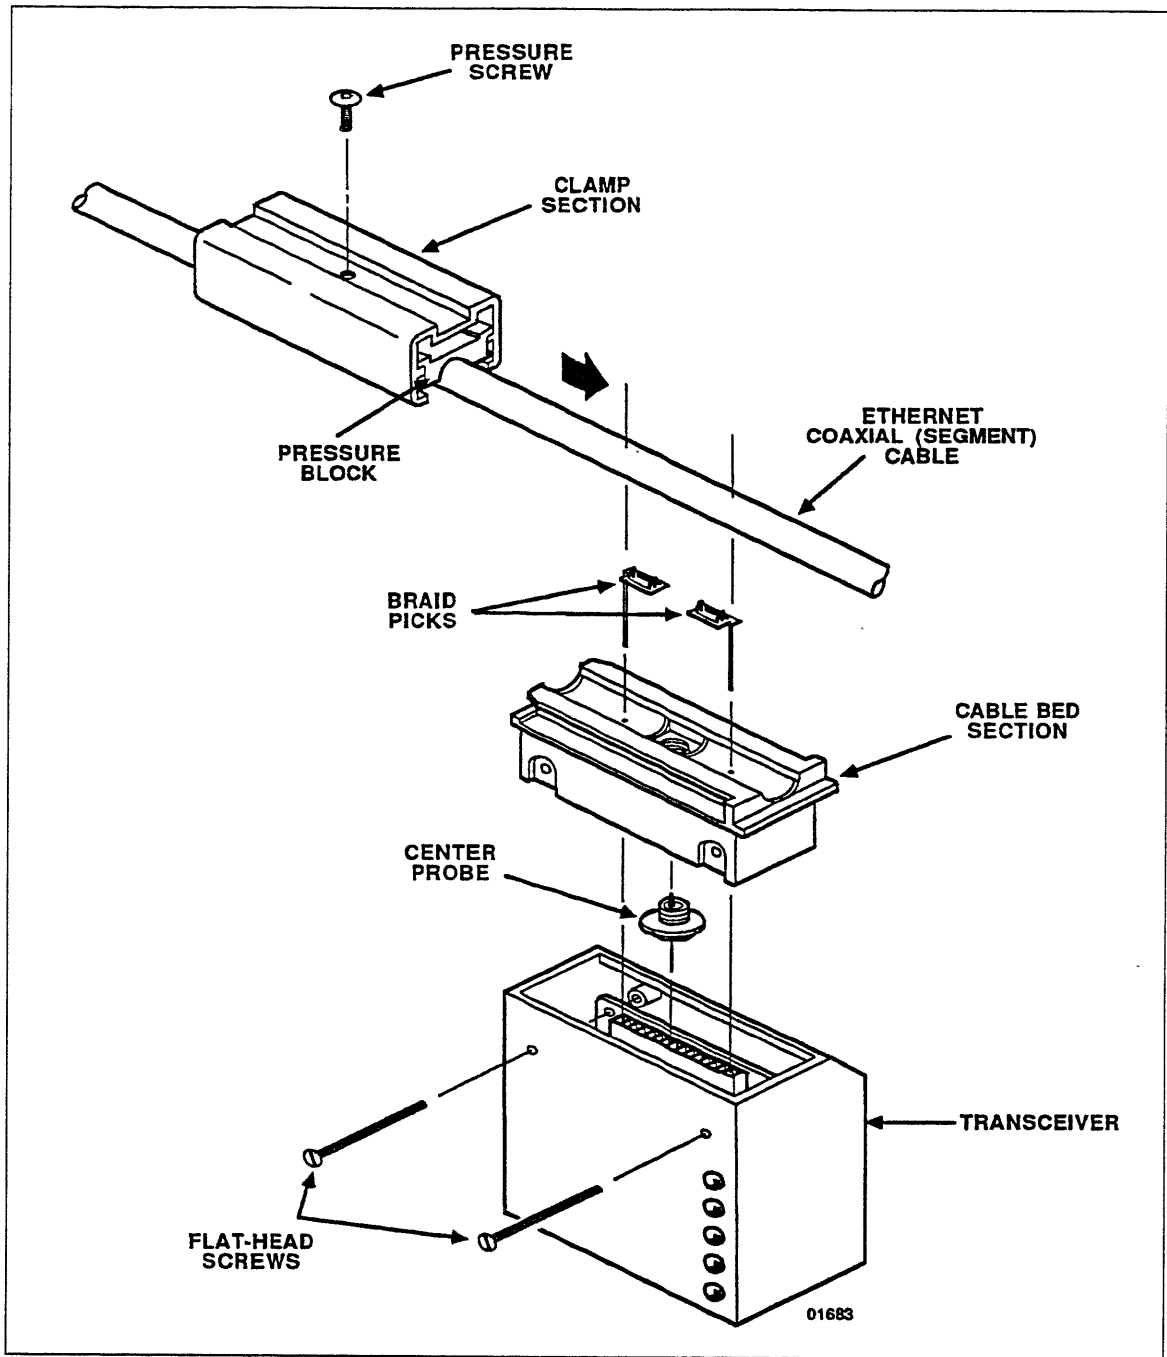

Figure 9-31. TN111B Transceiver and Tap Block
2. Check that tap center probe pin and braid pick pins are straight. If necessary, straighten them with a tweezers. Figure 9-31 is an exploded view that shows these pins. The pins are visible if you look into the open end of the tap.